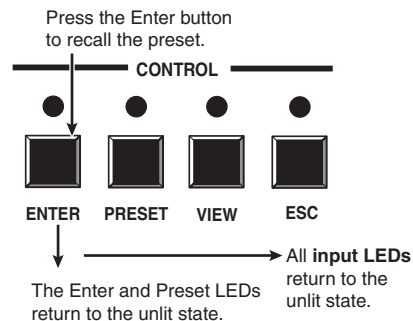

Figure 3-45 — Press the Enter button
4. Press and release the Enter button (figure 3-45). The configuration stored in selected memory location is now the current configuration and can be viewed in the *View-Only* mode (see example 5).